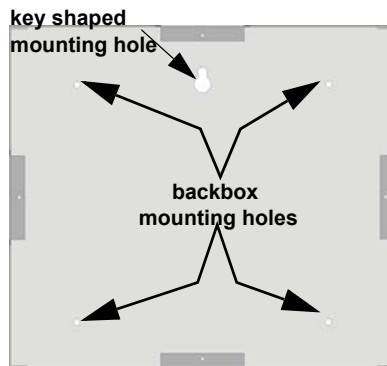

Figure 5 Backbox Surface Mount Holes
2. To properly mount the backbox, insert a single screw into the key shaped mounting hole. Do not tighten all the way. See Figure 5. Place a level on top of the backbox, with the backbox level, insert the rest of the mounting screws.